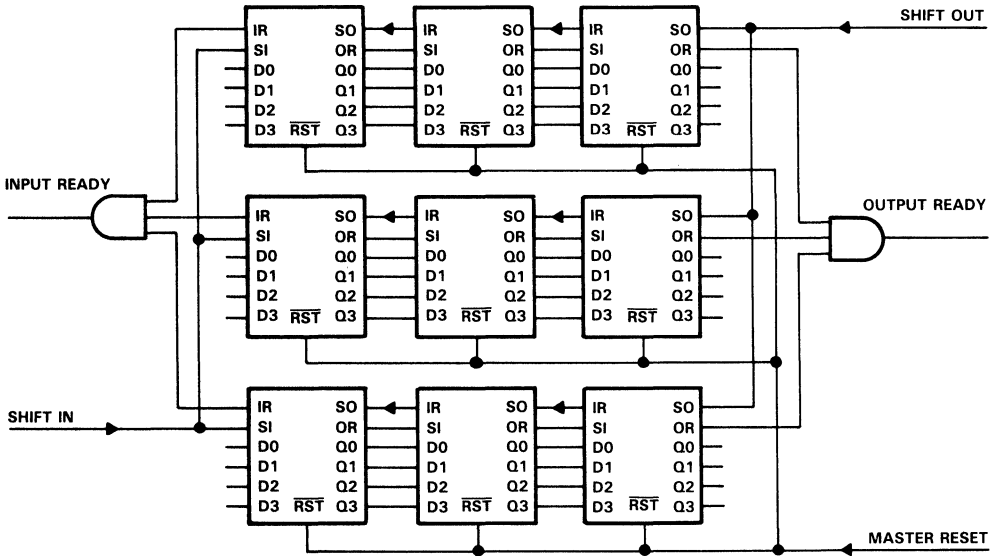
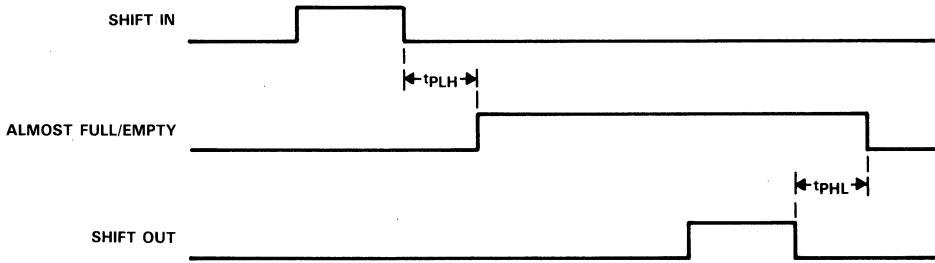
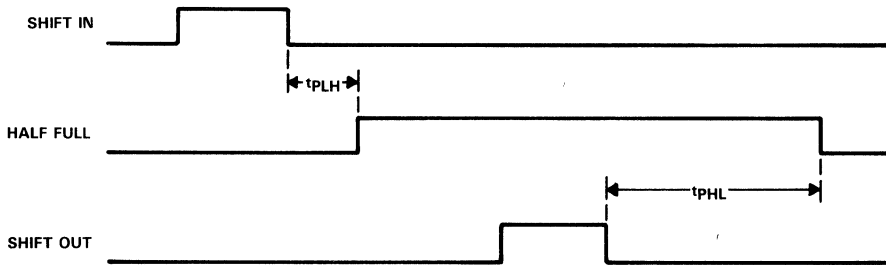

FIGURE 5. 192-WORD BY 12-BIT EXPANSION
FIGURE 6. ALMOST-FULL WAVEFORMS
FIGURE 7. HALF-FULL WAVEFORMS
Status of the 'ALS235 FIFO memory is monitored by the Output Ready (OR), Input Ready (IR), Almost Full/Empty, and Half Full flags. When the OR flag is high, valid data is available at the outputs. The OR flag is low when Shift Out is high and stays low when the FIFO is empty. The IR status flag is high when the inputs are ready to receive more data. The IR flag is low when Shift In is high and stays low when the FIFO is full. The Almost Full/Empty flag is high when the FIFO contains eight or less words (see Figure 5) or fifty-six or more words (see Figure 6). The Almost Full/Empty flag is low when the FIFO contains between nine and fifty-five words. The Half Full flag is high when the FIFO contains thirty-two or more words and is low when the FIFO contains thirty-one words or less (see Figure 7).